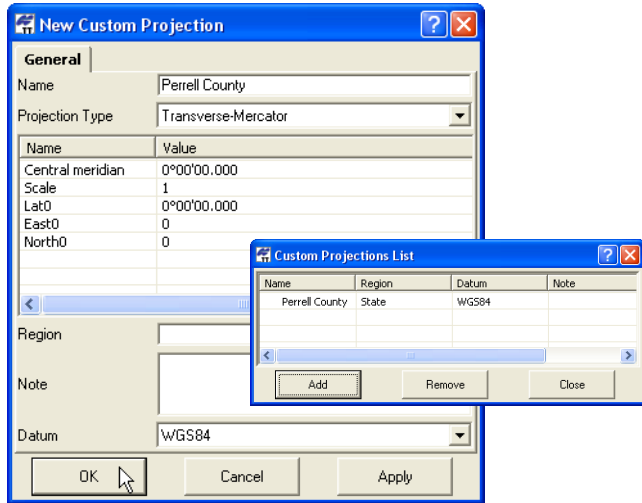

Figure 2-20. New Custom Projection
3. On the *New Custom Projection* dialog box, enter the following information and click **OK** (Figure 2-20):